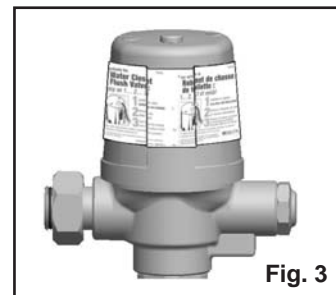

Fig. 3
- Follow instructions on yellow static label (Figure 3). **Note: The batteries are already installed and the product is in hibernation mode waiting to be activated.**